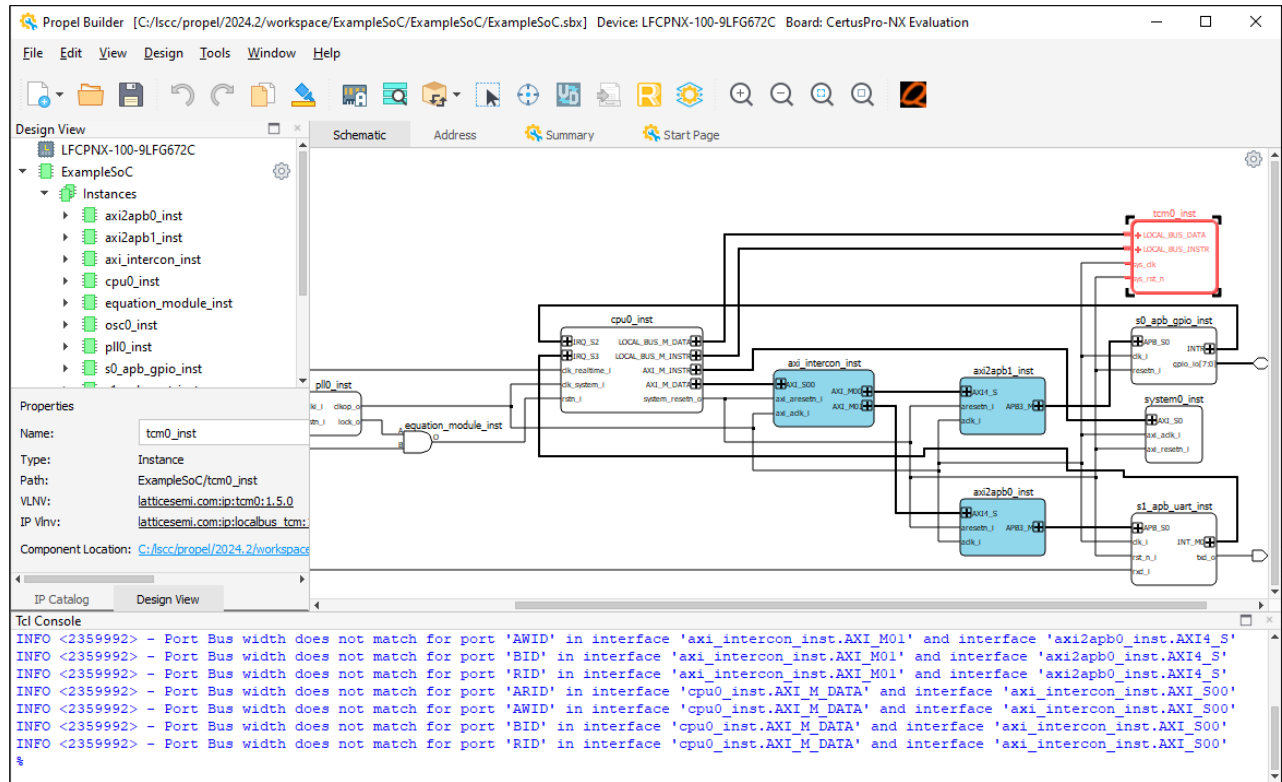

Figure A.8. Corresponding SoC Project
1. Switch to the corresponding SoC project, as shown in Figure A.8.